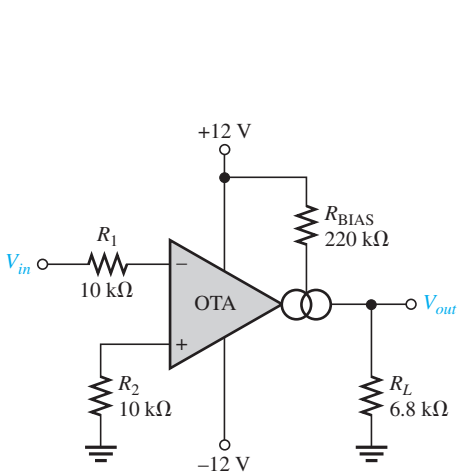
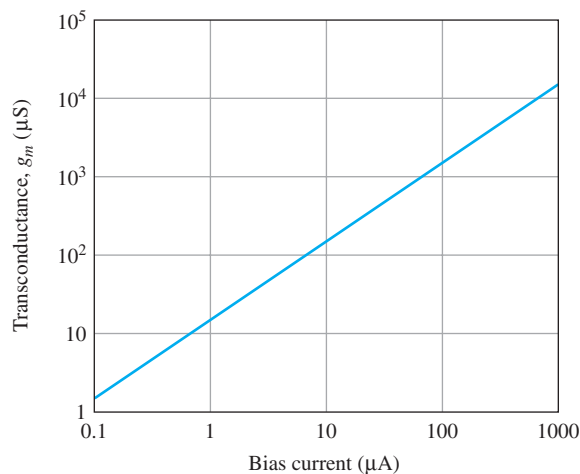

FIGURE 12-38
FIGURE 12-39
17. Determine the voltage gain of the OTA in Figure 12-38. Assume $K = 16 \mu$ S/ μ A for the graph in Figure 12-39.
18. If a 10 k Ω rheostat is added in series with the bias resistor in Figure 12-38, what are the minimum and maximum voltage gains?